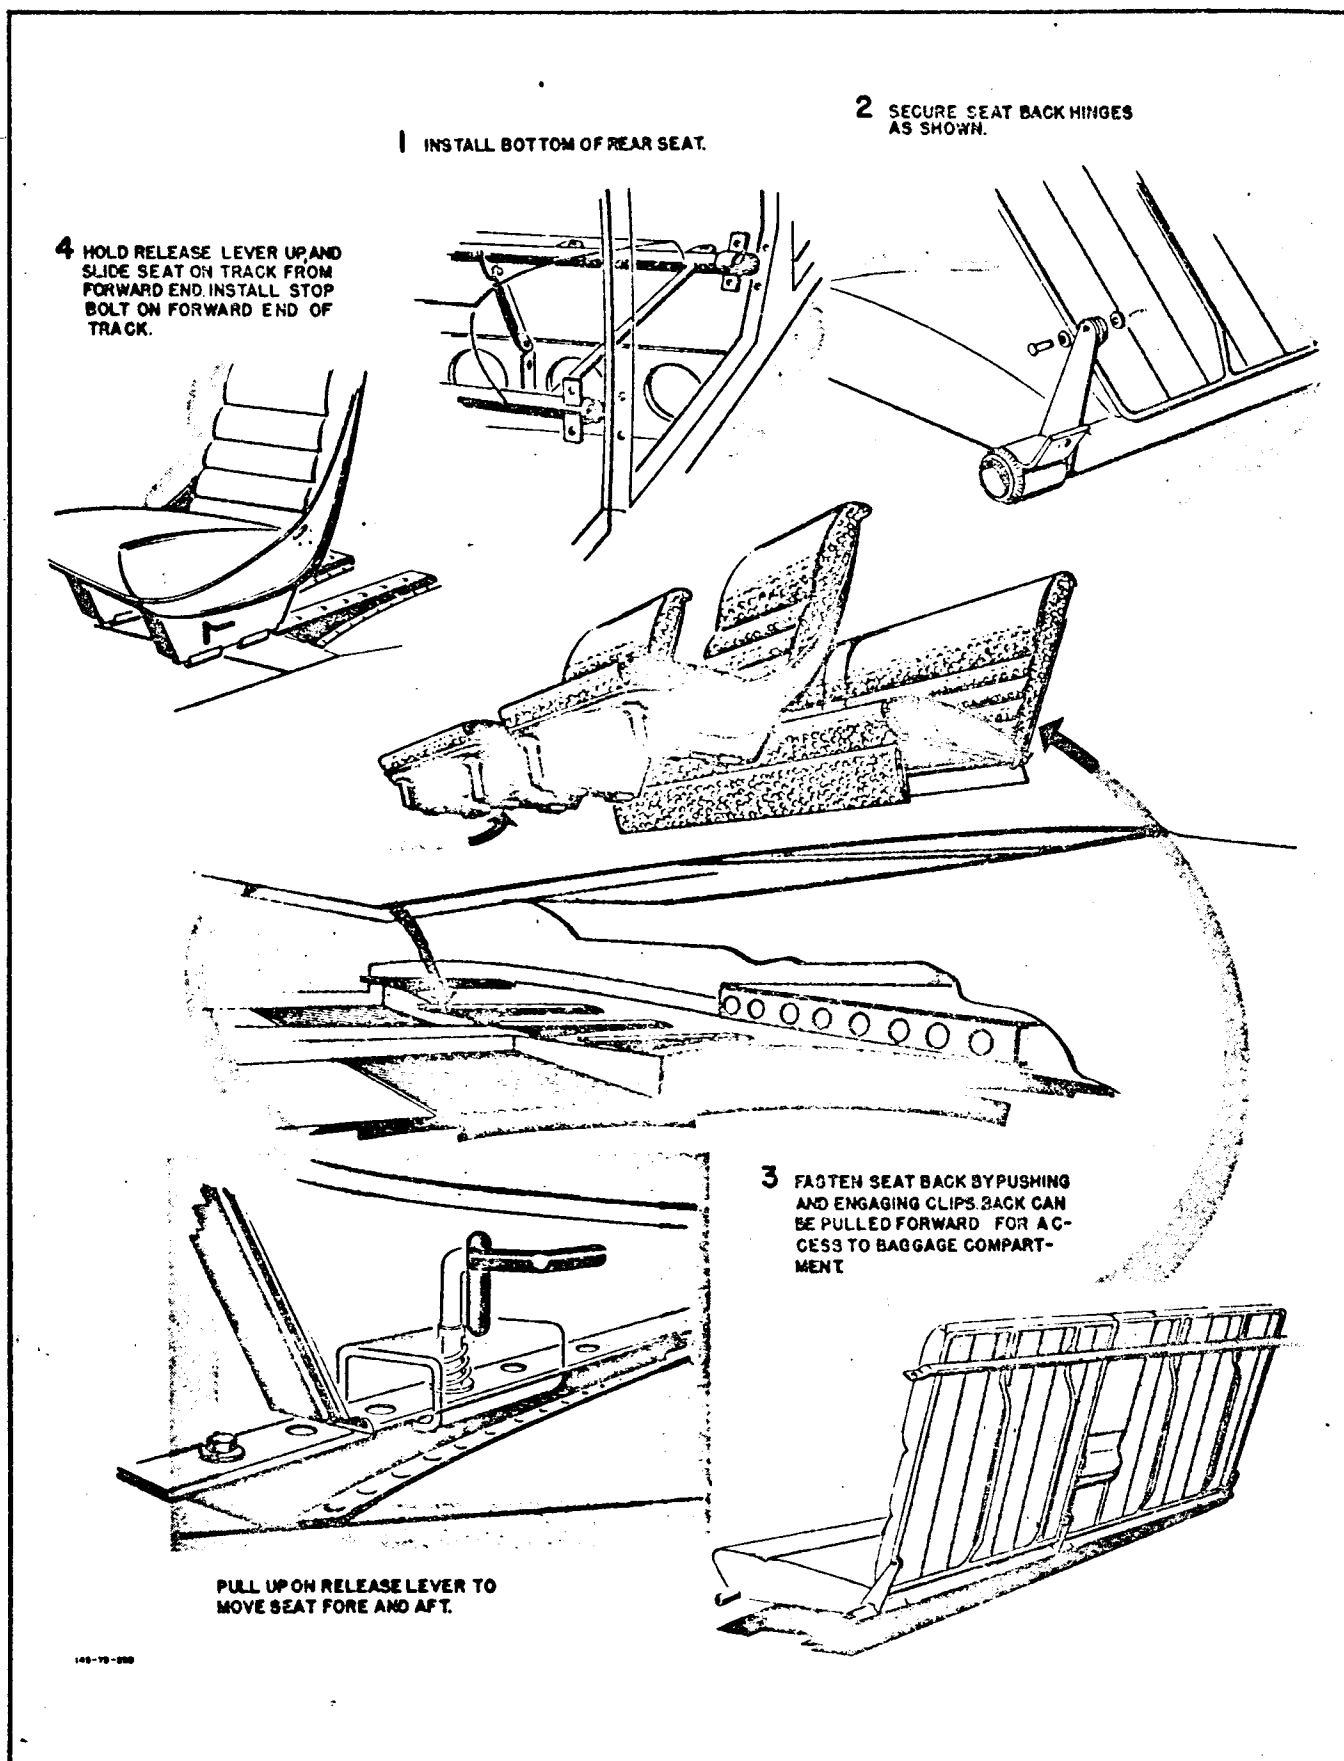

Figure 65 - INSTALLING AND REMOVING CABIN SEATS
**Installing and Removing Cabin Seats—See figure 65.**